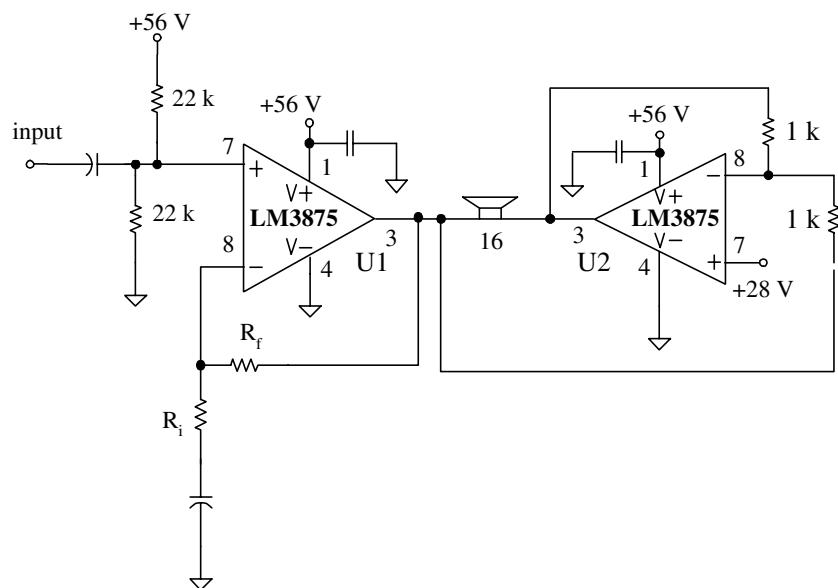

Figure 4-27 Bridge amplifier for Problem 4-22
- 4-22** Complete the design of the bridge amplifier shown in Figure 4-27. Set the gain to allow a 500 mV_{rms} signal to produce the maximum output power. Calculate the power delivered to the load and the heat sinks' thermal resistance assuming an ambient temperature of 40°C.